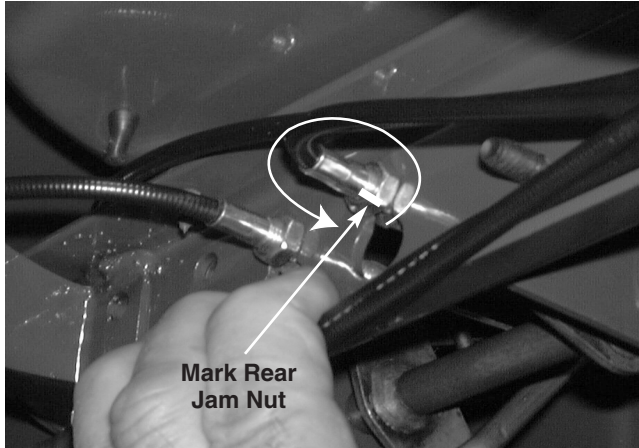

FIGURE 8.
- 15). Looking at the line that was marked on the rear jam nut, loosen the rear jam nut 2 complete rotations using a 1/2" wrench. See figure 8.